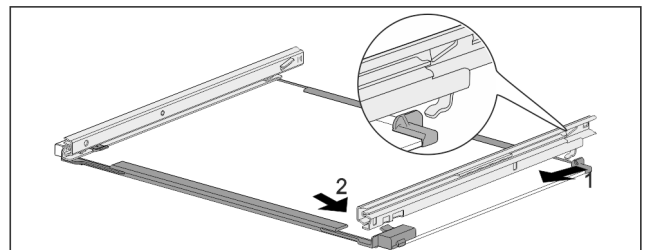

Fig. 192 Glass shelf with rails
- ▶ Hook in rail at the back. Fig. 192 (1)
- ▶ Hook in rail at the front. *Fig. 192 (2)*